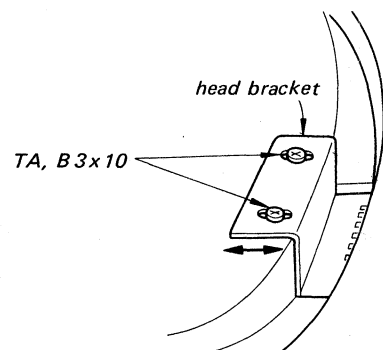
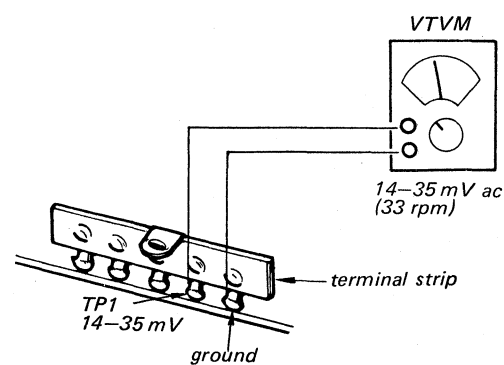

Fig. 3-2
Fig. 3-3
1. Adjust the position of the head bracket by loosening B 3x10 screws (See Fig. 3-2) so that the VTVM reads 14–35 mV (33 rpm) as shown in Fig. 3-3.